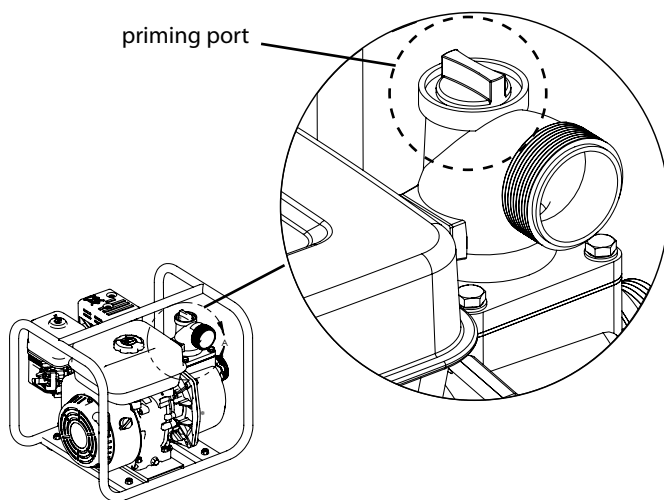

Figure 3
3. Add water to the priming port on the pump (**SEE FIGURE 3**). Continue adding water until the water level is approximately 3 inches from the top. Install the priming plug. The water in the pump will create the suction that primes the pump.